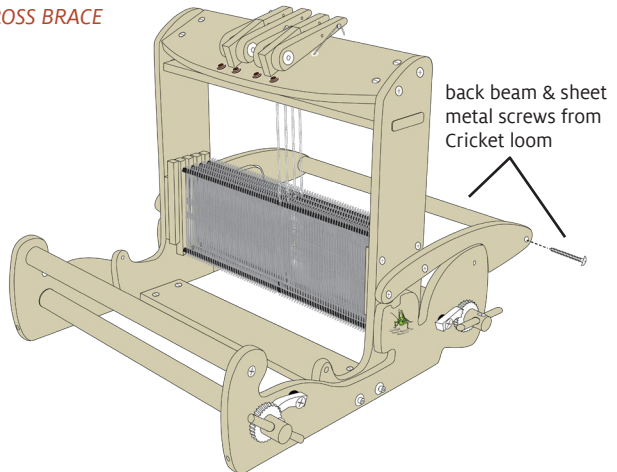

FIGURE 15: ATTACH BACK BEAM
28. Attach the back beam to the Quartet beam extensions, using the parts you removed in step 23 (Figure 15).